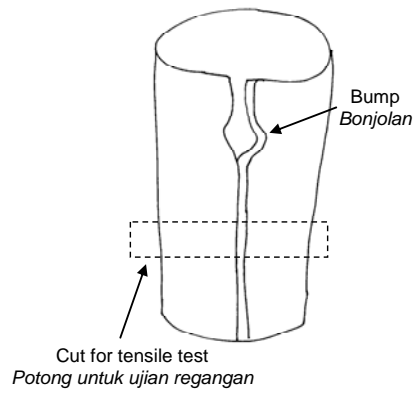

Figure 1 / Rajah 1
1. Figure 1 shows a cracked welded ZnTiCu tube delivered with the request of failure analysis investigation using visual inspection. The tube was formed by TIG welding of ZnTiCu strips of 0.65 mm nominal thickness. The tube weld failures occurred during expansion process at service.